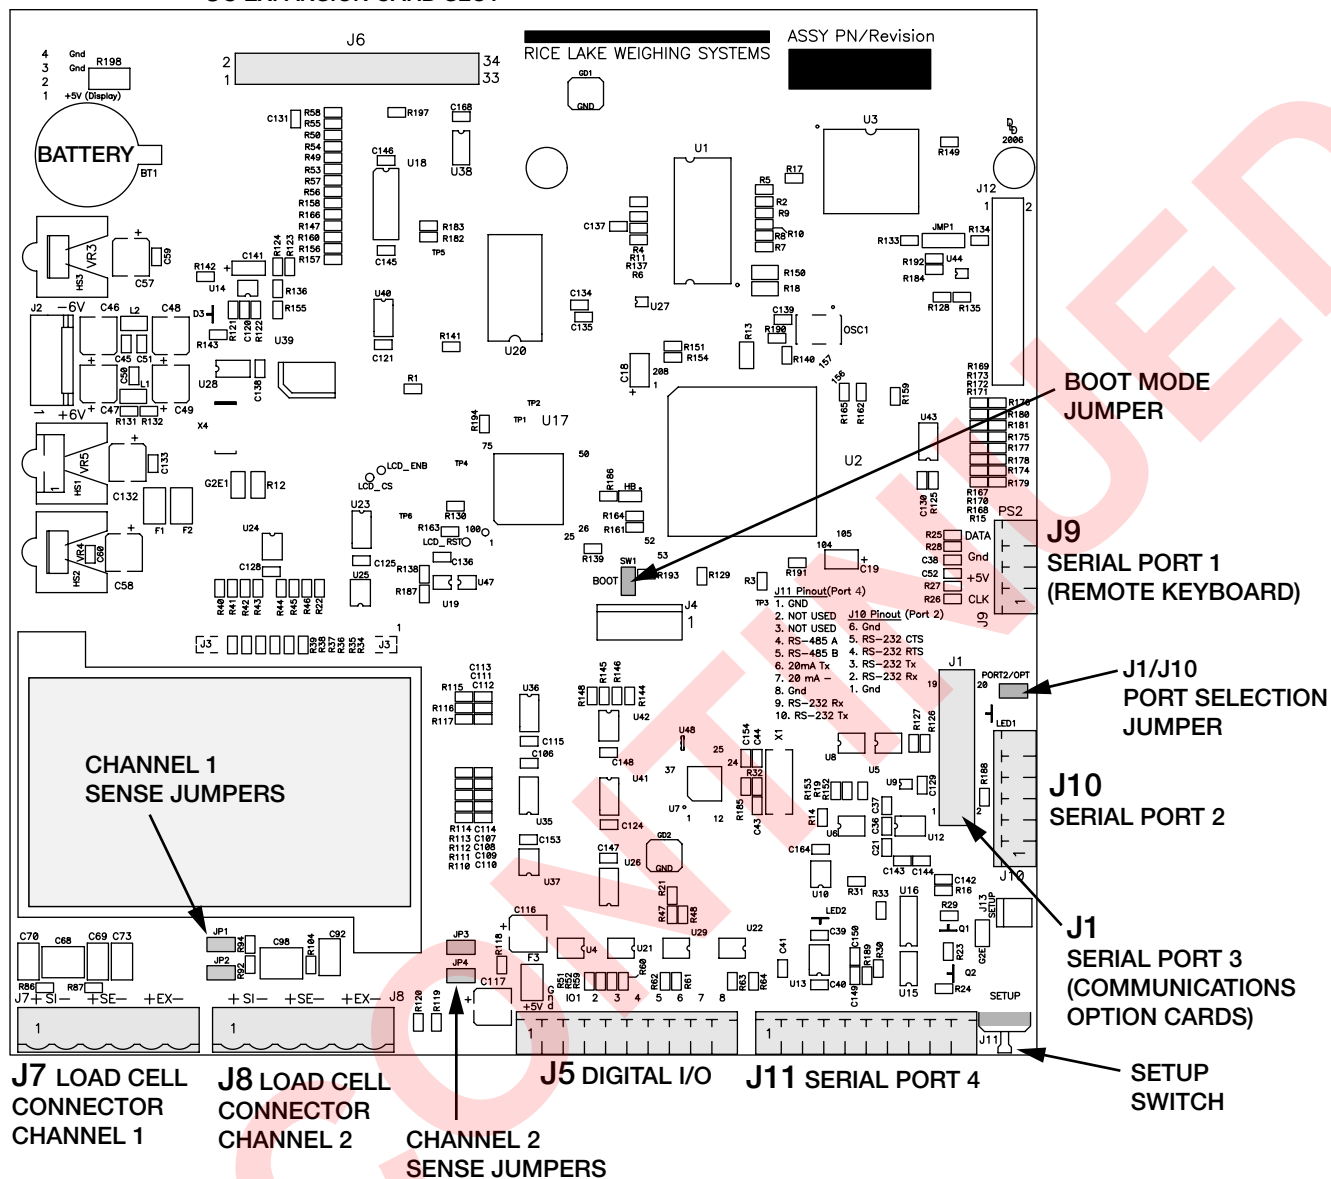

Figure 2-3. 820i CPU Board
**NOTE:** Installation of option cards in connector J1 requires removal of the J1/J10 port selection jumper (see Figure 2-3 on page 19). Removing the jumper disables RS-232 communications through connector J10. For the USB interface card only, connections for simultaneous RS-232 (configured as Port 3) and USB communications (Port 2) are provided on the USB interface card.
3. Carefully align the large option card connector with connector J6 on the CPU board (see Figure 2-3 on page 19) or J1.
5. Use the screws provided in the option kit to secure the option card to the threaded standoffs on the CPU board (see Figure 2-3 on page 19).
Table 2-5 lists the slot numbers, CPU board connectors, and configuration assignments made for both onboard and expansion card functions in the 820i. See Figure 2-3 on page 19 for connector locations.
See Figure 2-3 on page 19 for CPU board battery location and orientation (positive side up).